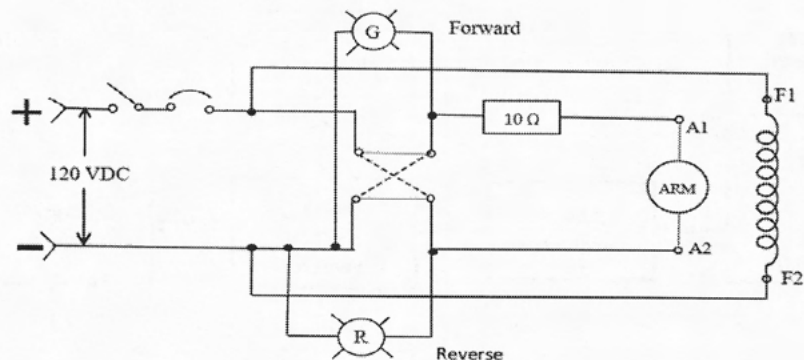

Figure 3
Symbols are used to indicate electrical elements and lines indicate connection wires. This type of diagram shows how a control system functions and it is the type we shall be using throughout this course. A schematic diagram of our D.C. motor control circuit is shown in (Figure3).
(c) If you were using (figure 3) in making your circuit connections, would it help if the component terminals shown in the drawing were numbered? Explain:
(d) In (figure 3) if the armature and resistance is 17 ohms, what is the maximum starting current? Explain:
(e) What would happen if the 10 ohms resistor in (figure 3) was eliminated from the circuit? Explain:
(f) In (figure 3) if terminals A1 and F1 are positive with respect to terminals A2 and F2, in which directions will the motor run(CW/CCW)? Explain:
(g) In (figure 3), would the red pilot light be illuminated? Explain:
- b. It is the same circuit shown in (figure 3), with the addition of component terminal identification and a current meter?